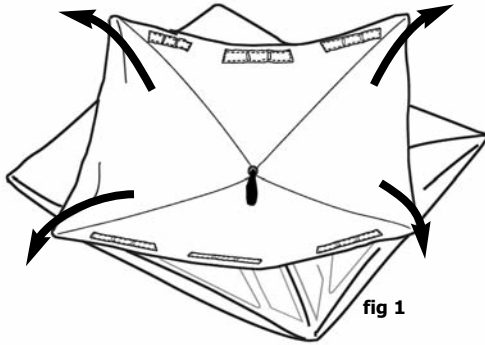

fig 1
Step 1: After removing Blind from case, unfold each corner outward and lay flat on ground (fig 1). Be sure material is NOT twisted or overlapping ends of poles.